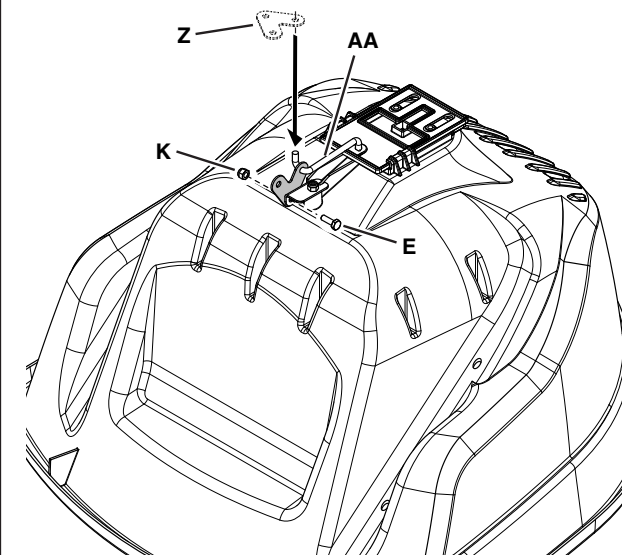

Figure 6
STEP 6: (SEE FIGURE 6)
- Install the drive link bracket (Z) onto the end of the drive link rod (AA).
- Attach the drive link bracket (Z) to the bracket already attached to the bottom of the hopper using a 1/4" x 3/4" hex bolt (E) and a 1/4" nylock nut (K). Tighten the nut and then back it off 1/4 to 1/2 turn.